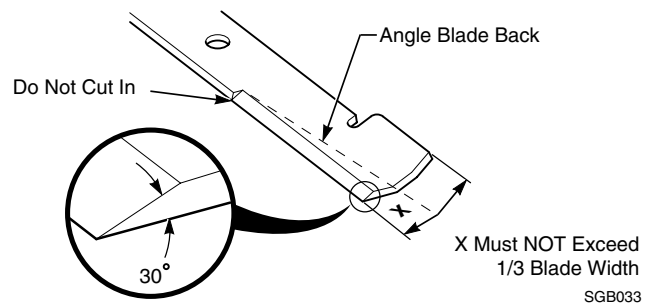

Figure 7-8. Blade Sharpening
DO NOT sharpen the blades beyond 1/3 of the width of the blade. See Figure 7-8.
1. Sharpen the cutting edge at the same bevel as the original. See Figure 7-8. Sharpen only the top of the cutting edge to maintain sharpness.